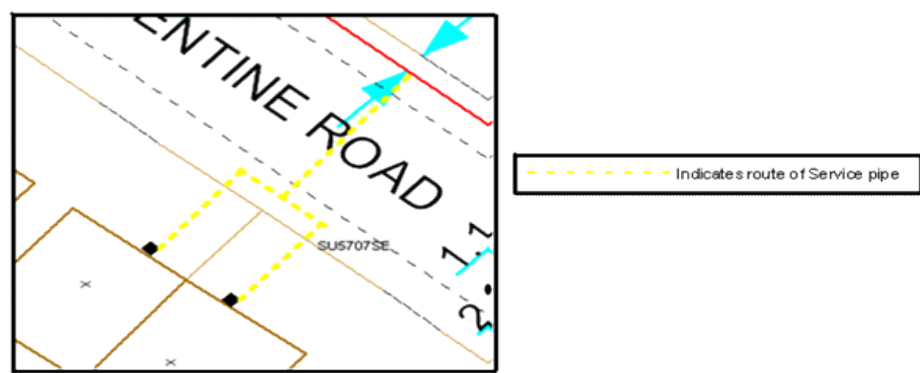

Figure 3 - A typical design of a dual service.
1. Although it is a preference to lay individual services, dual services (see Figure 3) are now permitted subject to the following criteria being met: -
- The maximum operating pressure of the service pipe <75 mbar (LP).